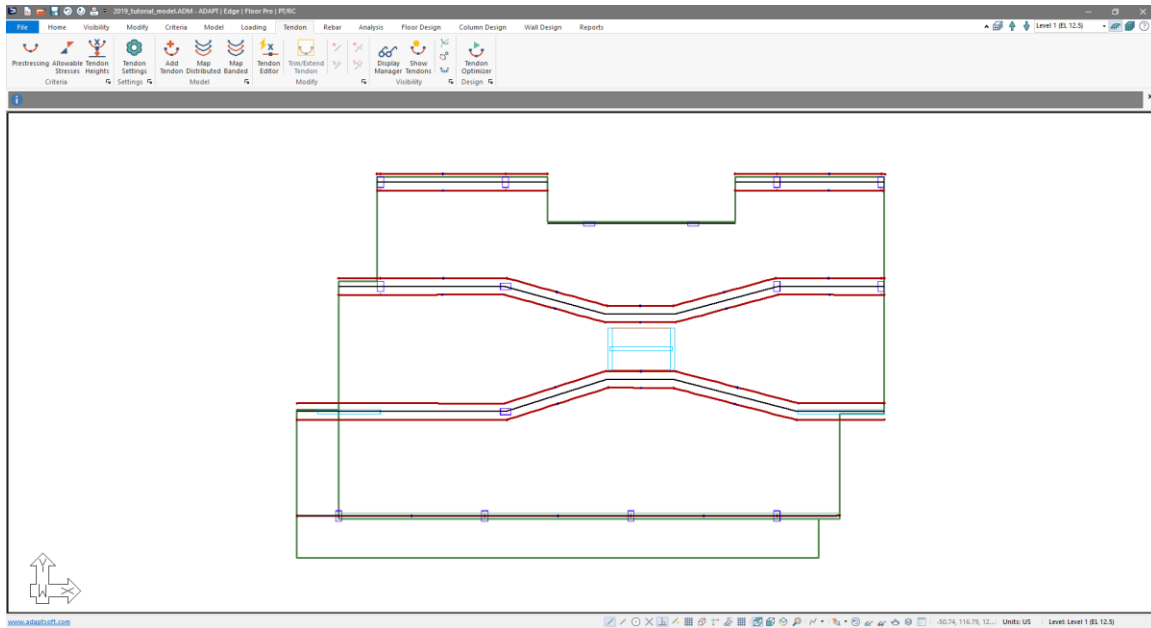

Figure 9-43
- Because all other defaults are acceptable, we can now click *OK* to close the window and create the banded tendons for the selected support lines. At this point the user should have a screen showing the model with banded tendons and the X-direction support lines as shown in **FIGURE 9-43**.